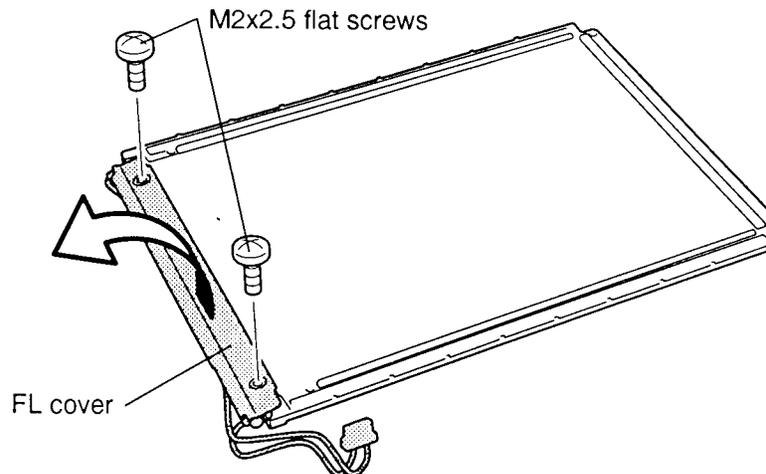

Figure 4-24 Removing the T200 FL
To remove the T200's FL, follow the steps below and refer to Figure 4-24.
4. Remove the **two M2x2.5 flat screws** securing the **FL cover** (Figure 4-24).
To install the T200's FL, follow the steps below and refer to Figure 4-24.
2. Secure the **FL cover** with **two M2x2.5 flat screws** (Figure 4-24).